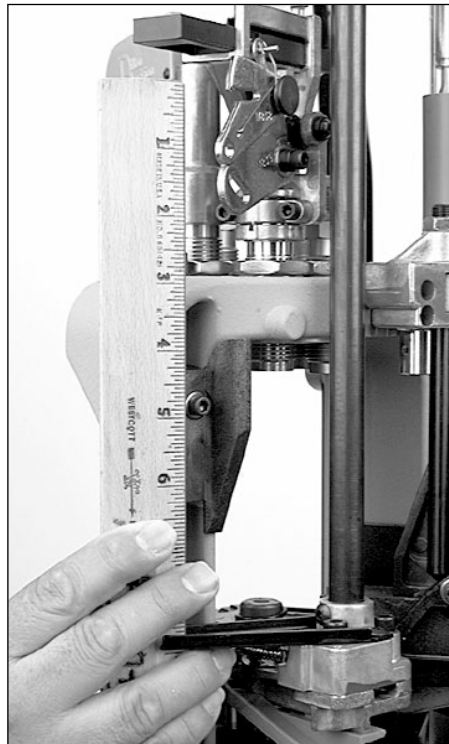
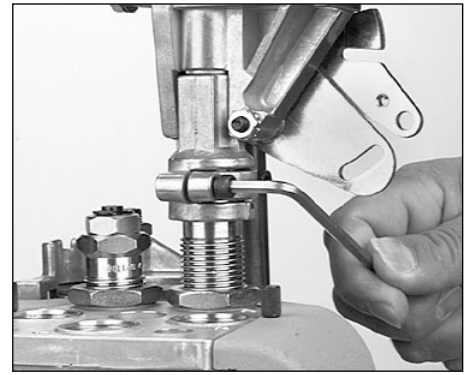

FIG 97
FIG 98
7. Insure the bellcrank and the failsafe bracket are aligned, **FIG 97**. Using a 5/32" Allen wrench snug the collar clamp screws, **FIG 98**.